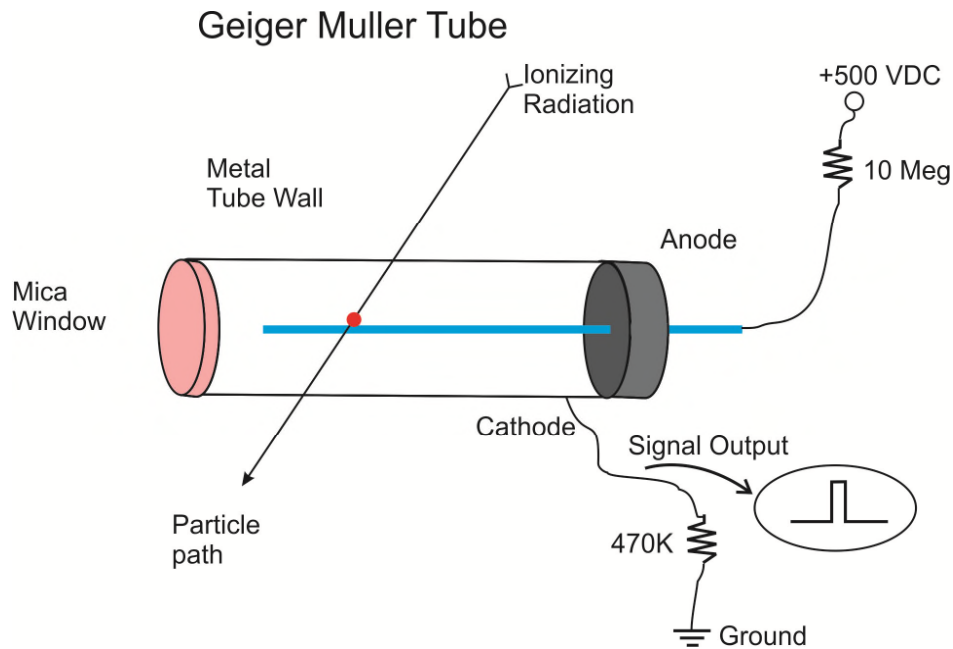

Figure 2
A cutaway drawing of a typical Geiger Mueller (GM) tube is shown in figure 2. The wall of the GM tube is a thin metal (cathode) cylinder surrounding a center electrode (anode). The metal wall of the GM tube serves as the cathode of the GM Tube. The front of the tube is a thin Mica window sealed to the metal cylinder. The thin mica window allows the passage and detection of the weak penetrating alpha particles. The GM tube is first evacuated, then filled with Neon, Argon plus a Halogen gas.